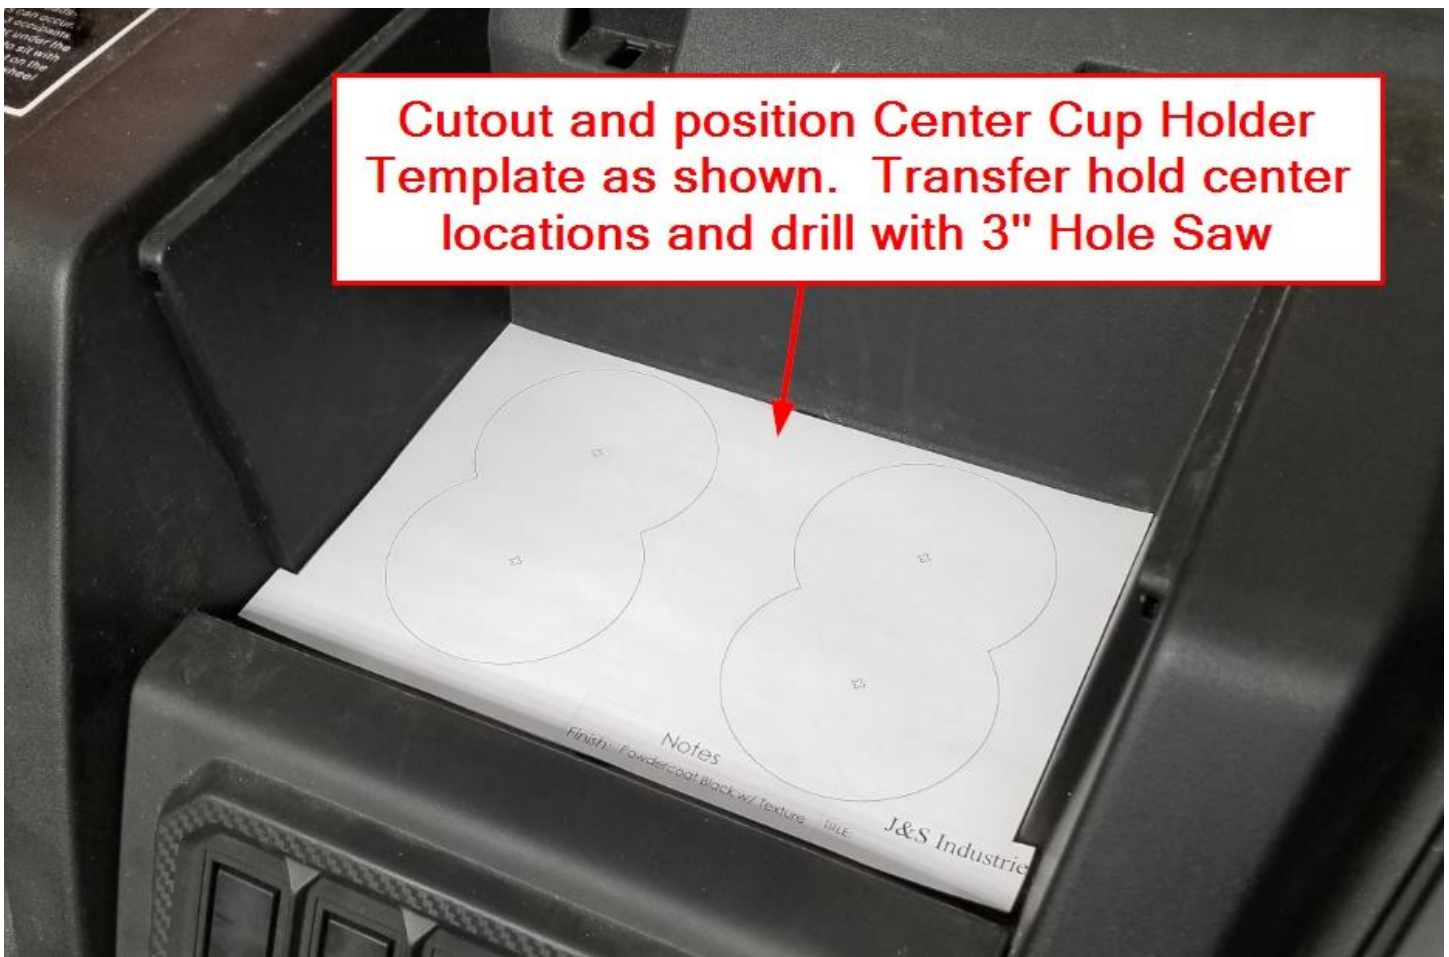

Figure 3
- Position the Center Cup Holder Templates as shown in Figure 3. Transfer the hole centers as shown on the template and use the 3" hole saw with arbor to drill the holes.